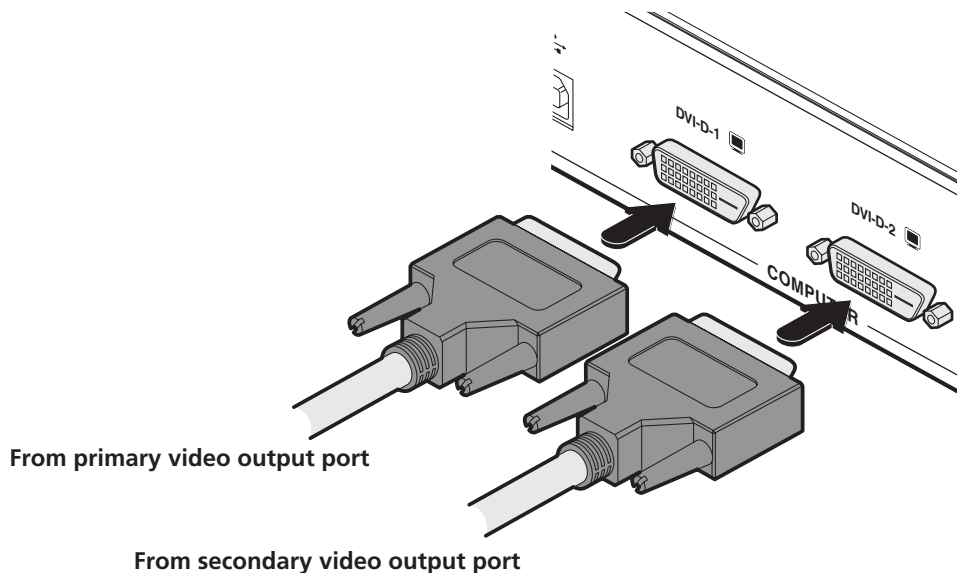

Figure 3-3. Connect standard DVI-D link cables to the DVI-D-1 and DVI-D-2 sockets.
- 2 Connect standard DVI link cables to the DVI-D-1 and DVI-D-2 sockets on the Local unit rear panel. See Figure 3-3.